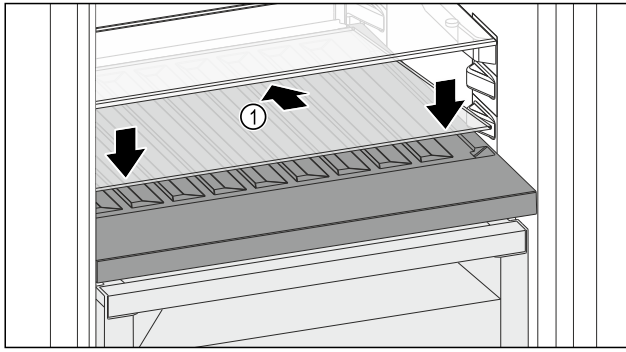

Fig. 140
- Place the glass shelf Fig. 140 (1) at an angle, sloping it downwards and backwards.
- Lower the glass shelf Fig. 140 (1) at the front.